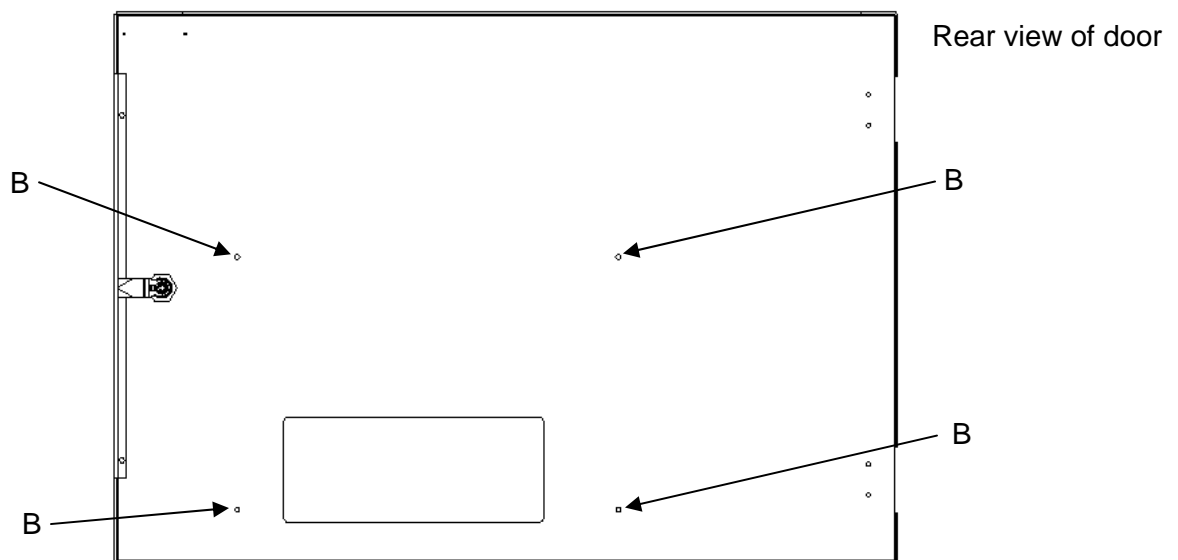

Fig. 3.5 Drill (4) 7/32" holes
- Drill (4) 7/32" [0.218"] diameter holes. See Fig 3.5, item B.